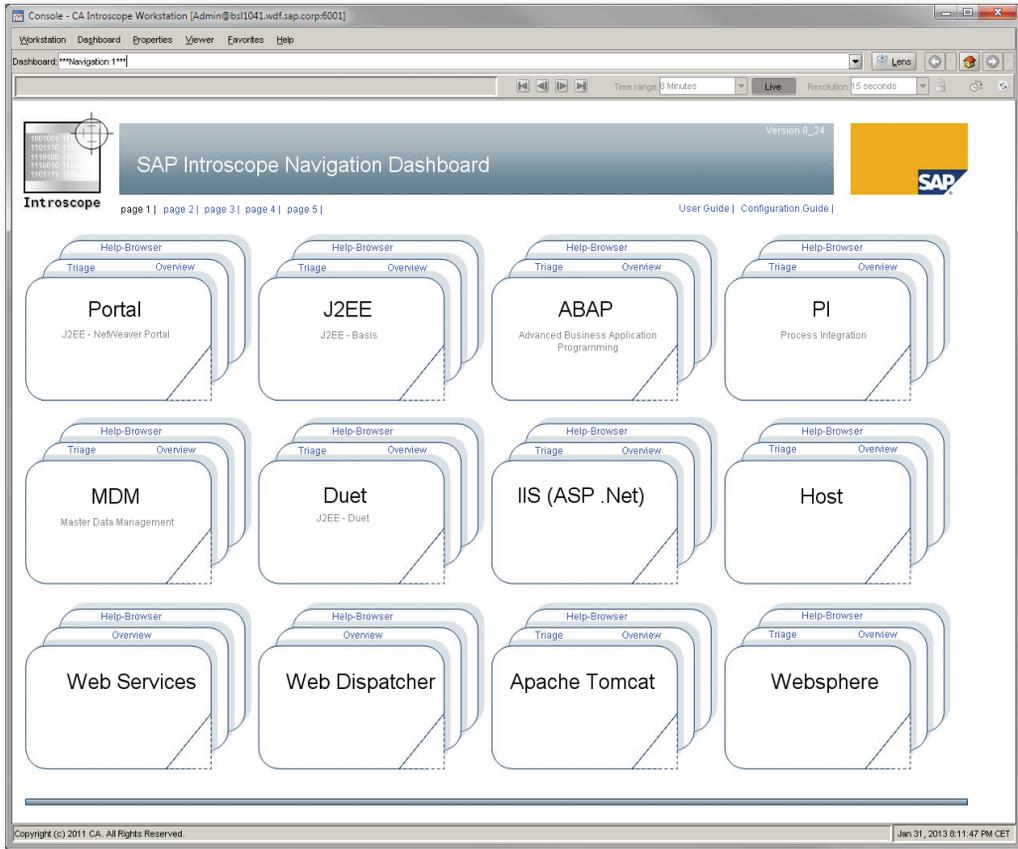

Figure 4.9 Introscope in Console Mode
2. Introscope then opens in console mode. The upper screen area contains a multiple selection option in which you can select the dashboards available. The NAVIGATION 1 dashboard (see Figure 4.9) is always the initial screen. From this dashboard, you can navigate to the main dashboards for the most important SAP products, which can be analyzed using Introscope.